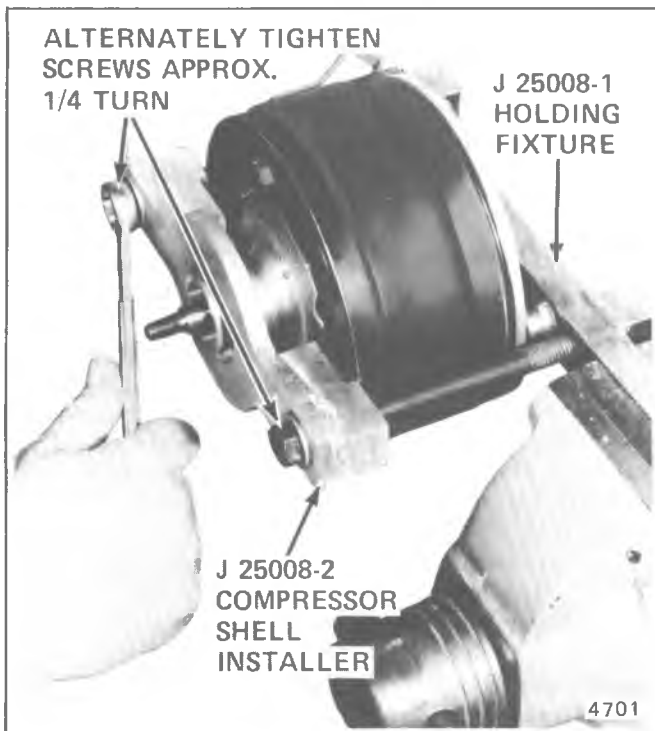

Fig. 1D-110 Installing R-4 Shell
6. Push the compressor shell as close to the O-ring, Fig. 1D-110, as possible by hand and check for equal alignment of the shell around the cylinder. Tighten the Fixture screws finger tight.